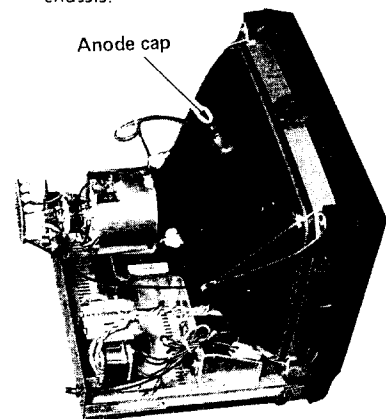

Fig. 3-2
- Disconnect the anode cap. (Fig. 3-2)